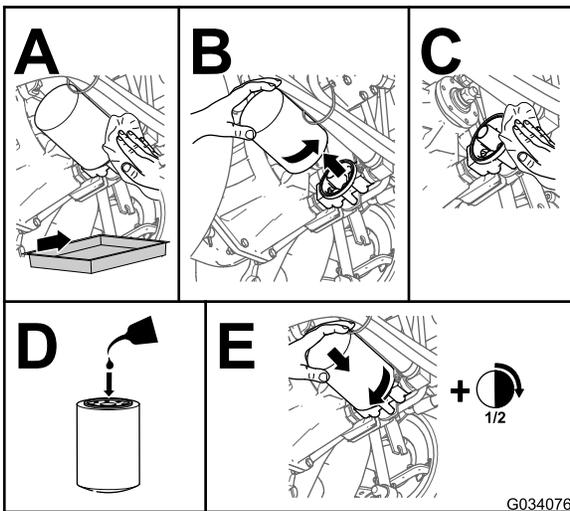

Figure 83
4. Replace the hydraulic filter (Figure 83).